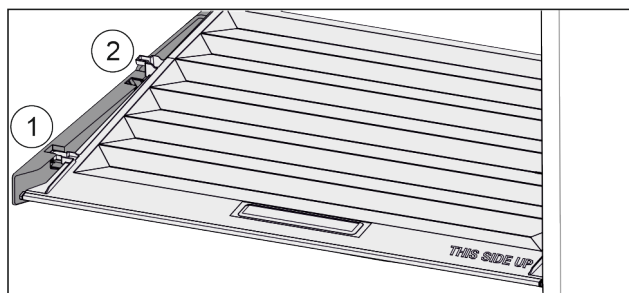

Fig. 72
- Pull the lid up at the front to the opening in the retaining parts Fig. 72 (1).
- Lift from the back and pull it up and out Fig. 72 (2).